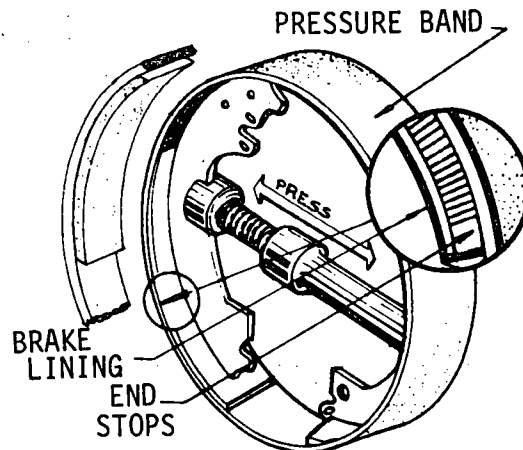

Fig. 2
d) Use the press to hold the shoe-lining unit and place stops on the ends to prevent deformation (fig. 2).